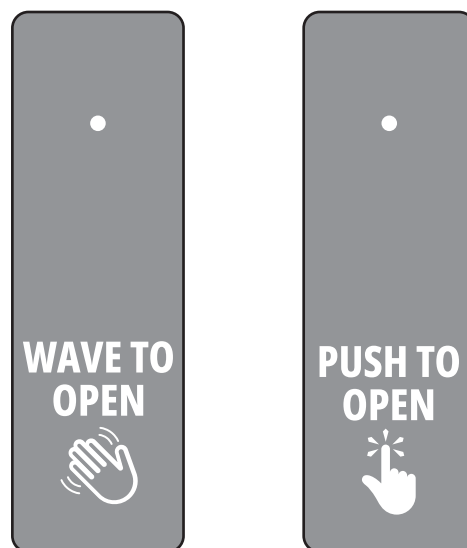

Figure 30: Add the Stickers as Shown.
- 'Wave to Open' or 'Push to Open' stickers must be added to the bottom of the door activators as shown in Fig 30.